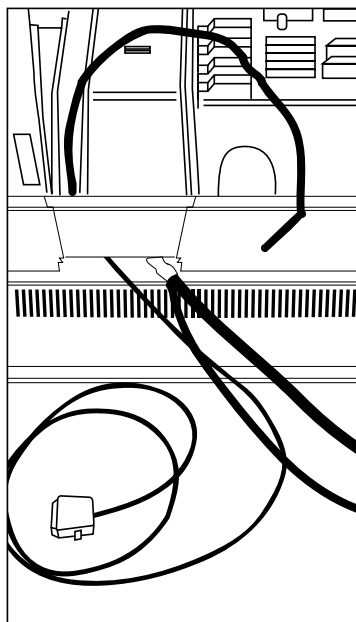

Figure 5-10. J16 Connector
3. Mark an X on the side of J16 that faces the front of the terminal. Remove the J16 connector from the keyboard connector bracket. Slide the J16 connector under the printer mounting plate. See Figure 5-10.